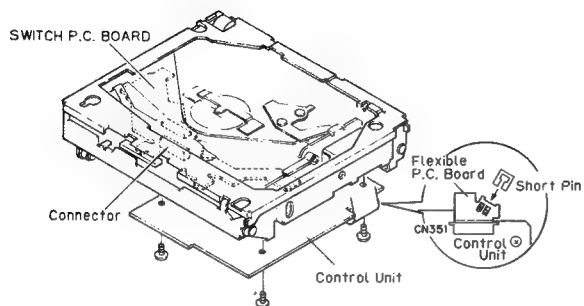

Fig. 10
(For protection of the PU unit.)(Fig.10)
5. Remove the three screws. (Fig.10)
6. Since the control unit is connected to the switch substrate by means of connector, disconnect the connector and then remove the control unit right downward. (Fig.10)